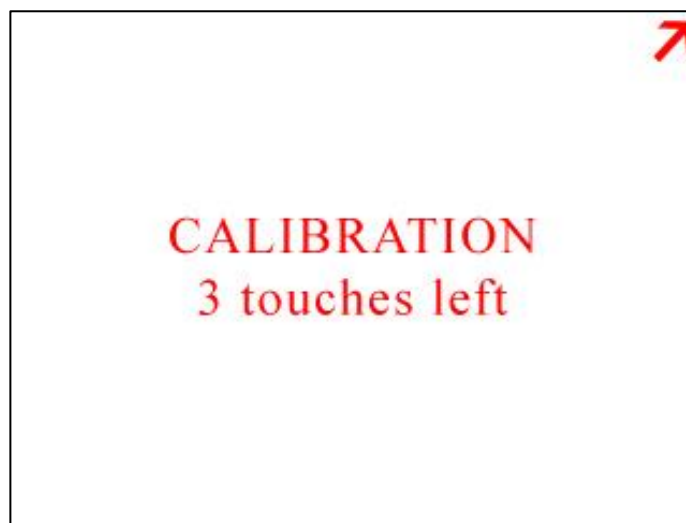

Figure 6-49 Alignment Screen 2
- At the next screen, touch the arrow displayed in the upper right corner. This need to be done a total of three times before continuing to the next alignment. See Figure 6-49.